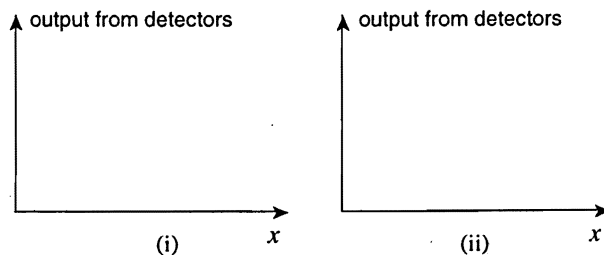

Fig. 9
- Sketch on Fig. 9 curves to show the general shape of the graphs which would be obtained if